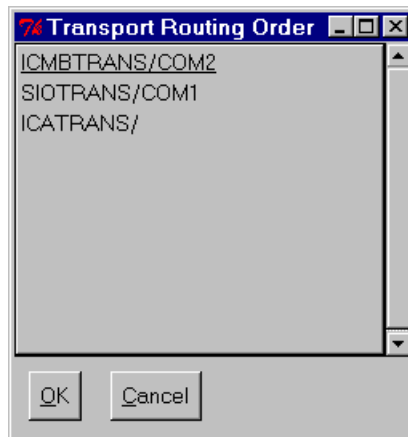

Figure 5-13. Transport Module Order Dialog Box
2. *Click* Transport Order. . . The Transport Module Order dialog box appears. Figure 5-13 shows the Transport Module Order dialog box with two transport modules listed: